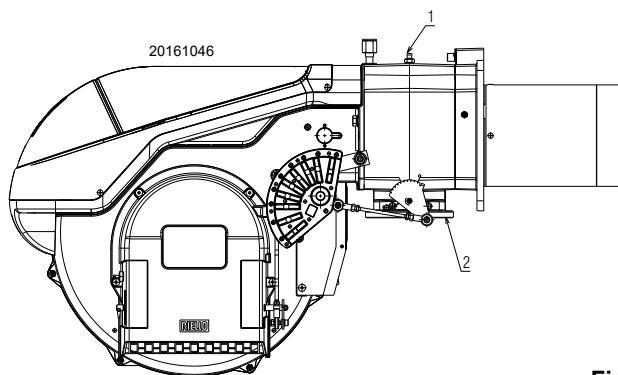

Fig. 19
Gas manifold pressure measured at test point 1)(Fig. 19), with:
- subtract the combustion chamber pressure from the gas pressure measured at test point 1)(Fig. 19);
- Gas pressure at test point 1)(Fig. 19) = 5.0 "WC